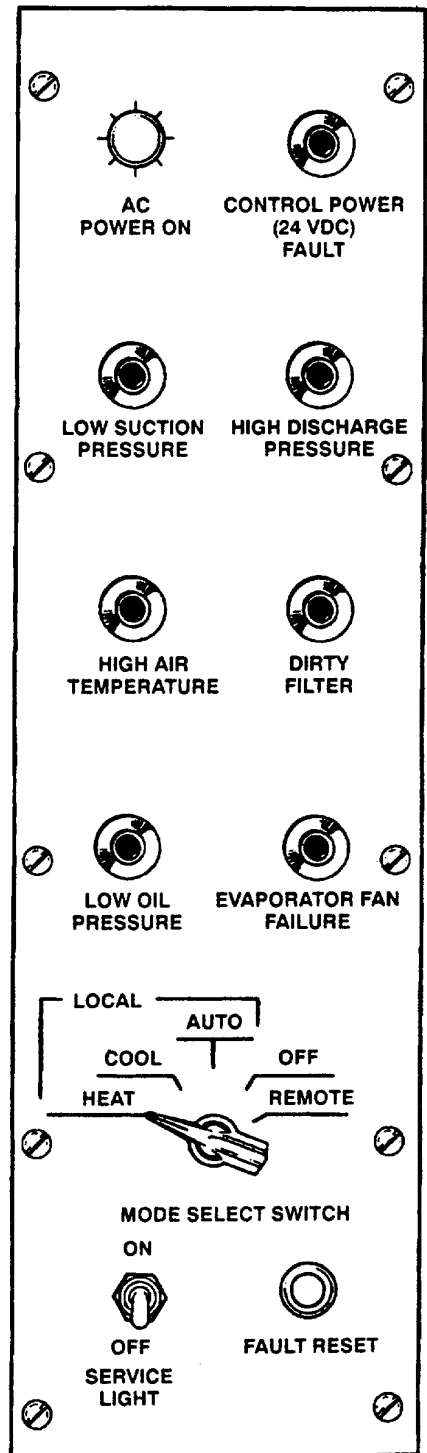

Figure 2-5. Heat Mode (Settings and Indicators)
**2-10. OPERATION IN HEAT MODE (See Figure 2-5).**